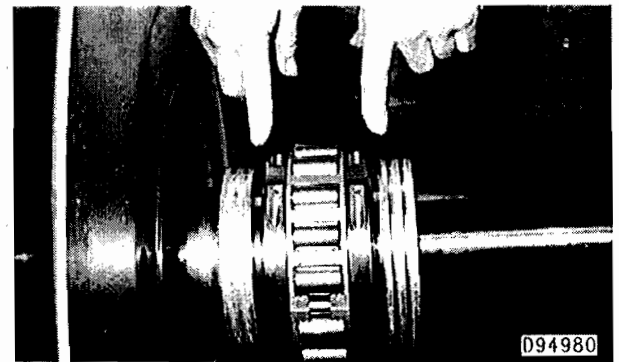

Figure 19
7. Place outer seal on shaft if it is not already there. Note the position of the seals in figure 19.